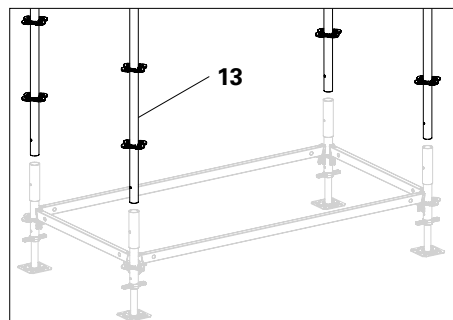

Fig. A2.04b
1. Insert Standard UVR-2 (**13a/13b**) into Base Standard UVB 25 (**12**) or onto Standard UVR-2. (Fig. A2.04b)